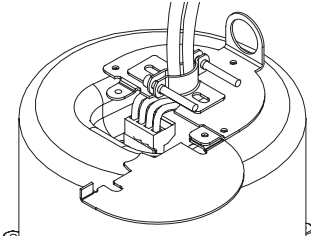

Figure 14: Secure cable through fitting
Step 4: Secure the Cable to the Speaker (Figure 14)
1. If plenum cable is used, slide the wiring through the strain relief fitting on the terminal cover plate (Figure 14). Hold the strain relief fittings tight around the cable. Tighten the strain relief screws first, then the horizontal screw. In the cases of insulated speaker wire and plenum cable, it is often possible to provide acceptable strain relief force by simply tightening the strain relief screws onto the terminal cover plate.